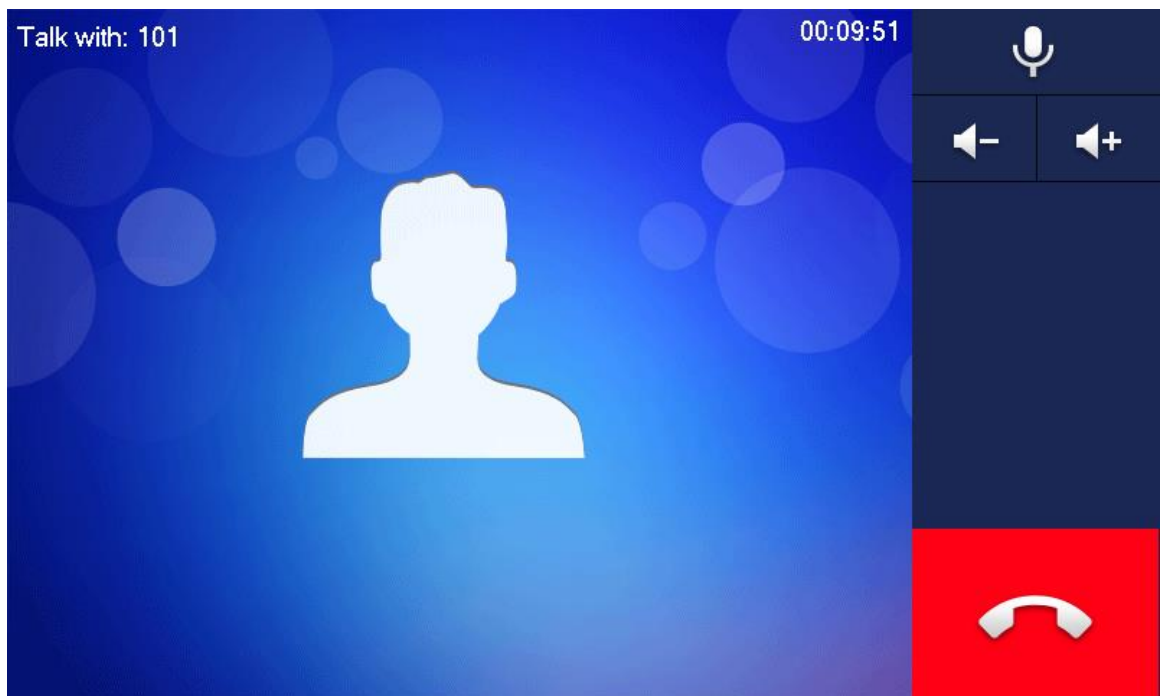

Figure 6-35
- Press  to talk with each other, as shown in Figure 6-35. For key description, please refer to Table 6-4.